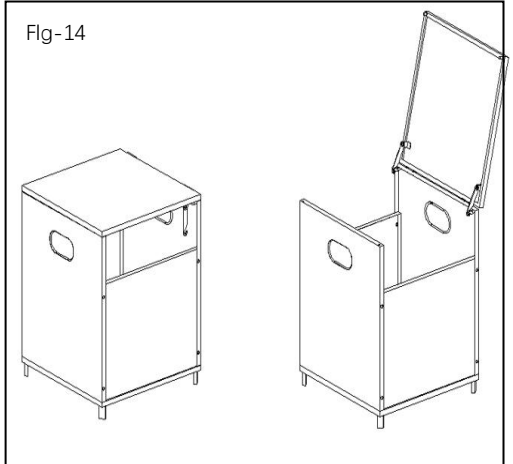

Fig. 15
5. Attach regulator to cylinder and turn clockwise by hand. (Fig. 15)